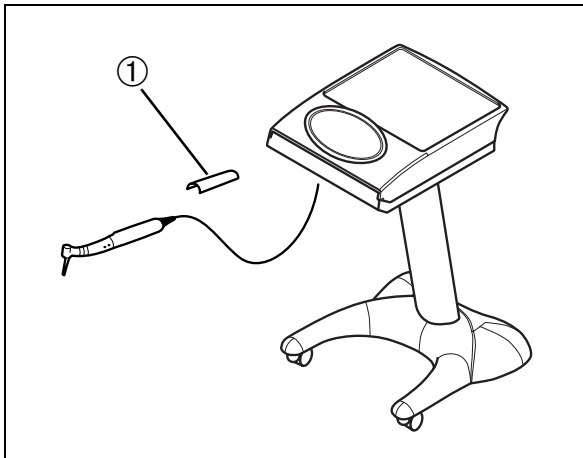

Fig. 5
The inserts in the six holders ① (Fig. 5) can be taken out of the holders when required and sterilized in the autoclave at up to 135°C and 2.1 bar (minimum dwell time: 3 minutes).